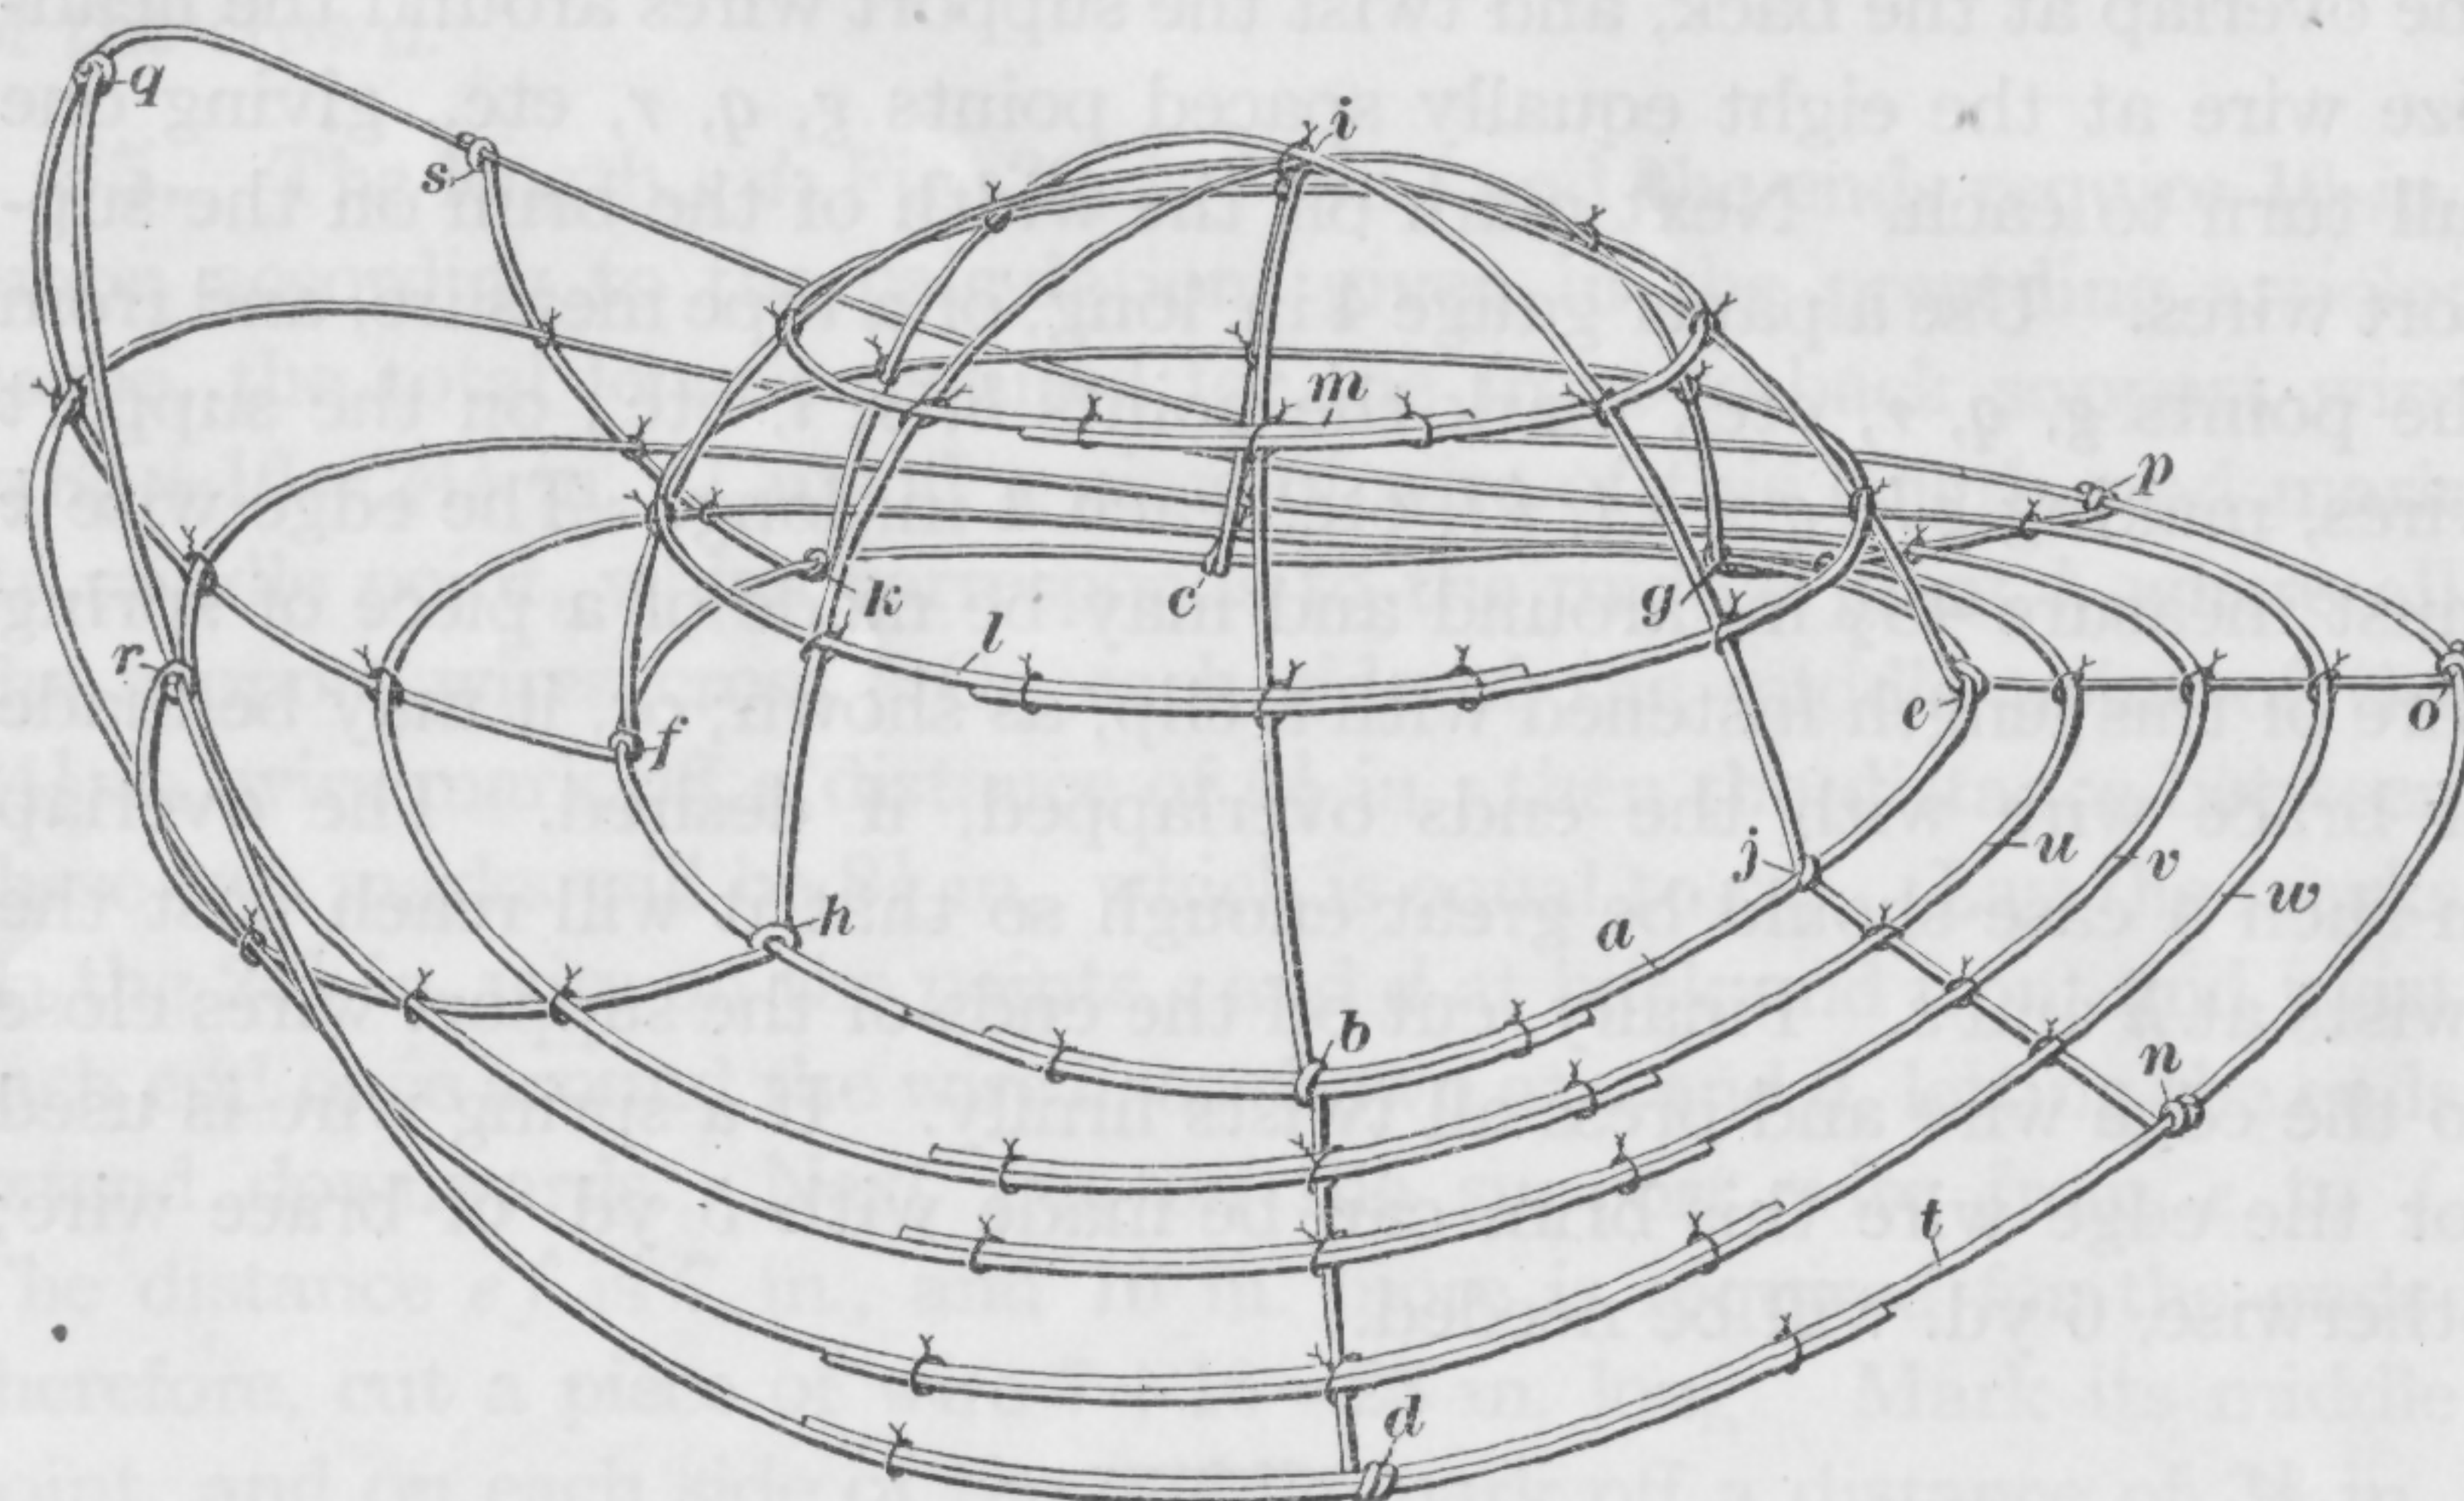

FIG. 21
**38.** The example of one-piece frame shown in Fig. 21, is a combination of a dome crown with a rolled brim. In this frame the opposite halves, taken in any direction, are not alike. The lengths and the curves of the support wires must be determined largely by the judgment of the maker, who must decide what proportions will give the best appearance; for the same width and roll of brim will not look equally well on all wearers. However, to serve as a guide, the approximate measurements of a frame like that shown will be given.
**39.** Make the head-size wire  $a$ , Fig. 21, in the usual way, 24 in. around, and mark it off into eight equal parts, beginning at the point  $b$ , at the middle of the overlap. The length from  $b$  to  $c$  over
40. The diagonal support wires are put on next. Take a piece of brace wire 22 in. long, bend up  $4\frac{1}{2}$  in. at one end, and set this bend against the inside of the head-size wire at  $g$ , Fig. 21. Twist the end of the support wire once around the head-size wire at  $g$ . Then carry it across the top of the dome to the point  $h$ , and make a twist there. This support wire should rest against the other two support wires at the point  $i$  where they cross, and should measure  $10\frac{1}{2}$  in. from  $g$  to  $h$ . The other diagonal support wire, from  $j$  to  $k$ , is made of the same length as the first, bent like it, and attached in the same way. Then all the support wires are tied together with tie wire at the
41. The width of the brim must now be marked off on the support wires, Fig. 21. It varies at different points. The widths  $j n$ ,  $e o$ , and  $g p$  are made  $2\frac{1}{2}$  in. each. At the back and the front the width is made 3 in. The roll from  $f$  to  $q$  is made 6 in.; from  $h$  to  $r$ , 5 in.; and from  $k$  to  $s$ , 4 in. The points  $n$ ,  $o$ ,  $p$ ,  $q$ ,  $r$ , etc., are marked either with a pencil or by making bends in the wire. The parts of the support wires at the left must now be curved, to produce the roll of the brim. This can best be done in connection with the operation of attaching the edge wire  $t$ , as there will then be something to hold the support wires after they are bent. Take a piece of brace wire 51 in. long and twist the support wires around it at the points  $n$ ,  $o$ ,  $p$ , etc., that have been marked on the support wires. Leave an end to the left of the twist  $n$  long enough to form the overlap. Before making the twists at  $s$ ,  $q$ , and  $r$ , bend the support wires to the height and curve desired for the brim; then bring the end of the edge wire down from  $r$ , make the twist at  $d$ , and tie the overlapped ends, as shown.
42. All that remains to be done to complete the frame in Fig. 21 is to attach the brace wires  $u$ ,  $v$ , and  $w$ . The method of fastening them to the support wires is exactly the same as that described previously in connection with the making of brims of others shapes. The brace wires are fastened on top of the support wires, and from the back to the front, along the right side of the frame, they are spaced equally, as shown. The spacing may be done by eye, after some experience has been gained; otherwise, the support wires should be marked at the points where the brace wires are to be attached. At the left side, on the roll of the brim, the brace wires are not quite equally spaced, but are located so as to maintain the general curve of the rolled part. The overlaps of the ends must be put at the back, as in the case of the head-size and edge wires. Nine yards of wire will be required for this frame.